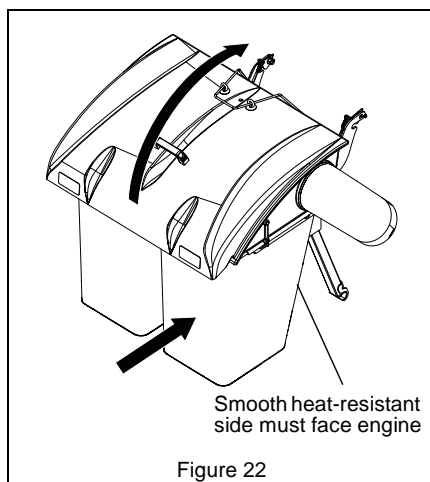

Figure 22
3. Install grass bags. The smooth heat-resistance surfaces of the mesh bags must face the engine. See Figure 22.